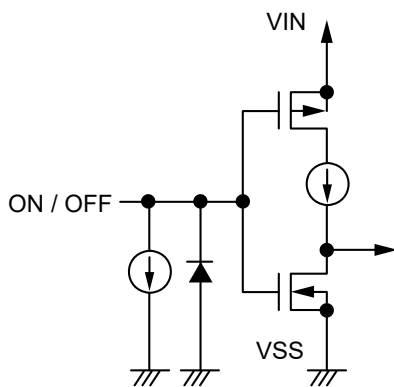

Figure 18 S-1313 Series A / C type
When the ON / OFF pin is set to OFF level, the entire internal circuit stops operating, and the built-in P-channel MOS FET output transistor between the VIN pin and the VOUT pin is turned off, reducing current consumption significantly. Note that the current consumption increases when a voltage of 0.25 V to $V_{IN} - 0.3$ V is applied to the ON / OFF pin. The ON / OFF pin is configured as shown in **Figure 18** and **Figure 19**.
*1. Note that the IC's current consumption increases as much as current flows into the constant current of 0.1 μ A typ. when the ON / OFF pin is connected to the VIN pin and the S-1313 Series A / C type is operating (refer to **Figure 18**).